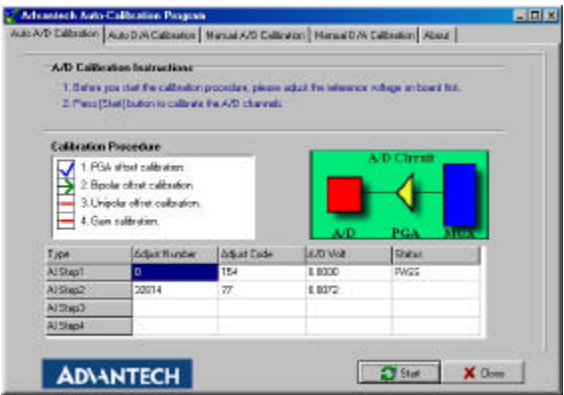

Fig. 5-8 A/D Calibration Procedure 2
Step 6: The second A/D calibration procedure is enabled (Fig. 5-8)